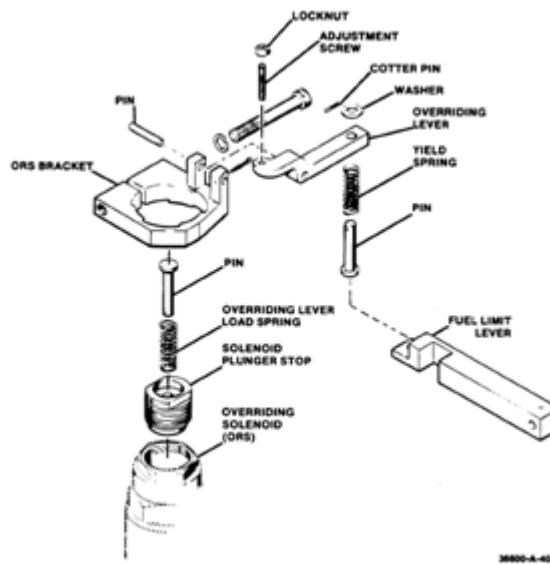

Figure 5-65. ORS Bracket
- q. Assemble overriding solenoid (OHS) bracket and attach it to overriding solenoid (Figure 5-65).